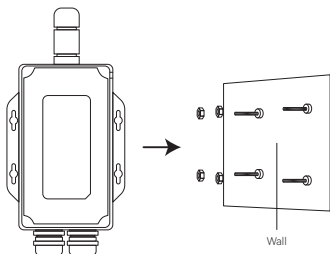

Figure 3-4 Fixed Installation Schematic
(3) Place the protruding screws through the product fixing holes and tighten with nuts. As shown in Figure 3-4.